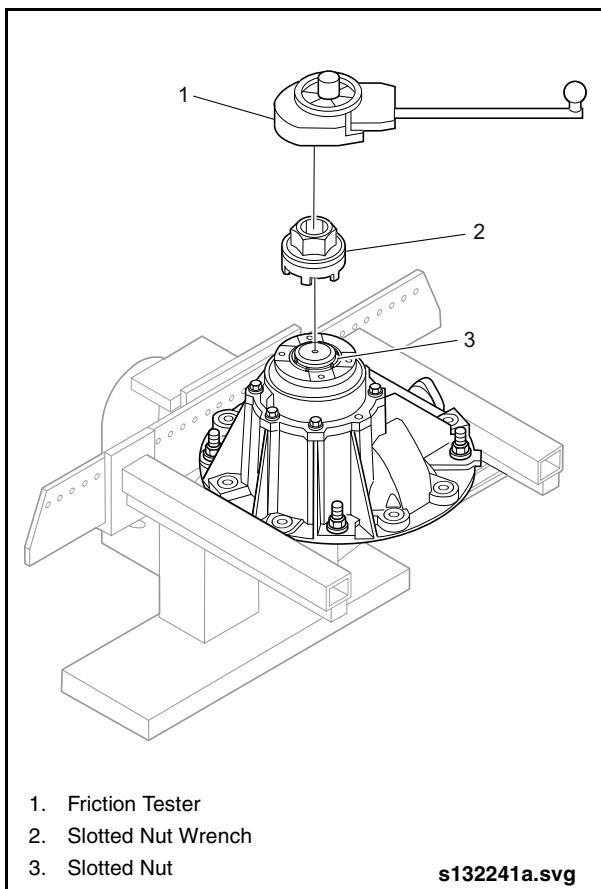

Fig. 2-83: Mounting Friction Tester
8. Place the Friction Tester (Item 77 from Special Tools List) with the Slotted Nut Wrench (Item 26 from Special Tools List) on the slotted nut. See "Fig. 2-83: Mounting Friction Tester" on page 70.